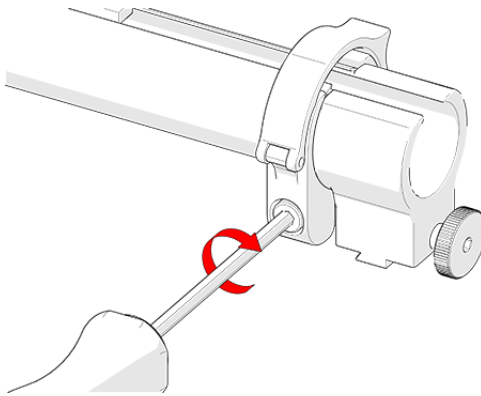

Figure 3-58 Tighten clamp screw
5. Tighten the clamp screw (see Figure 3-58 on page 77).